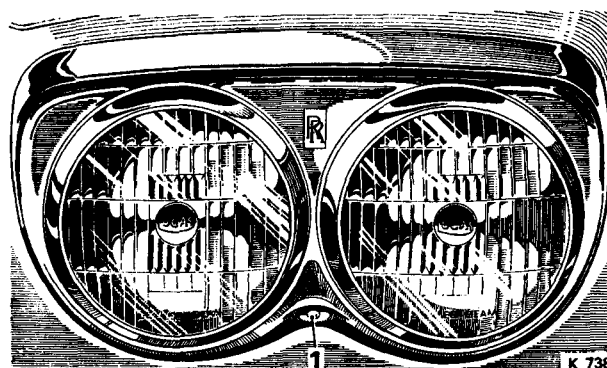

FIG. M48 HEADLAMP SECURING SCREW
1. Remove the fairing securing screw, raise the lower edge of the fairing and unhook it from the two upper retainers; remove the seal (see Fig. M48).